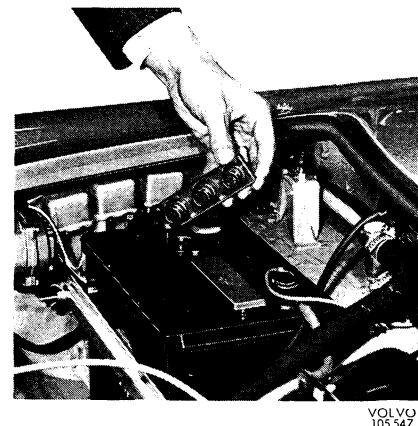

Fig. 1-19. Battery
1. Check that the electrolyte level in the battery is about 5 mm (3/16") above the plates (Fig. 1-19). If necessary fill with **distilled** water. Also check that the battery and battery terminals are secure.